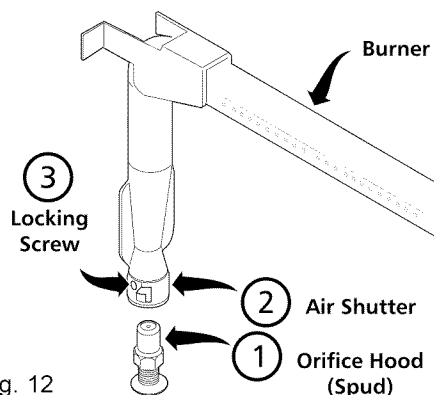

Fig. 12
- Turn off oven and allow to cool before adjusting air shutter. To adjust loosen lock-screw (3), reposition air shutter (2), and tighten lock-screw (3) (See Fig. 12).